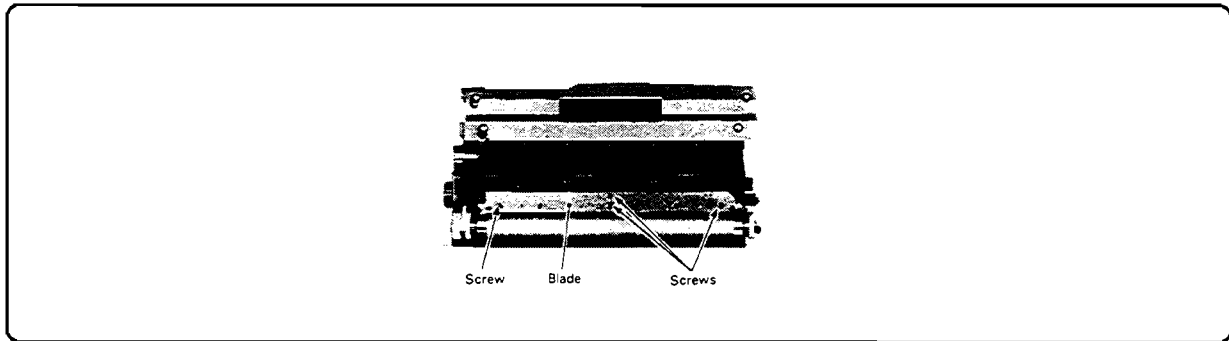

Figure 6-61. Developer Blade Removal
5. Remove the four screws and detach the blade (Figure 6-61).